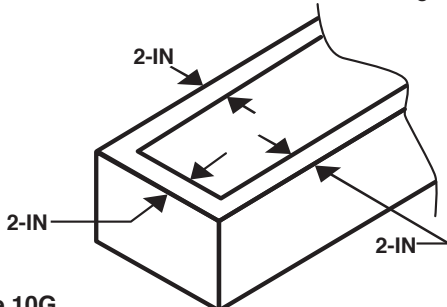

Figure 10G
- Insert the heater box into the center of fabricated box leaving 2" from each side to fabricated box. See Figure 10G.